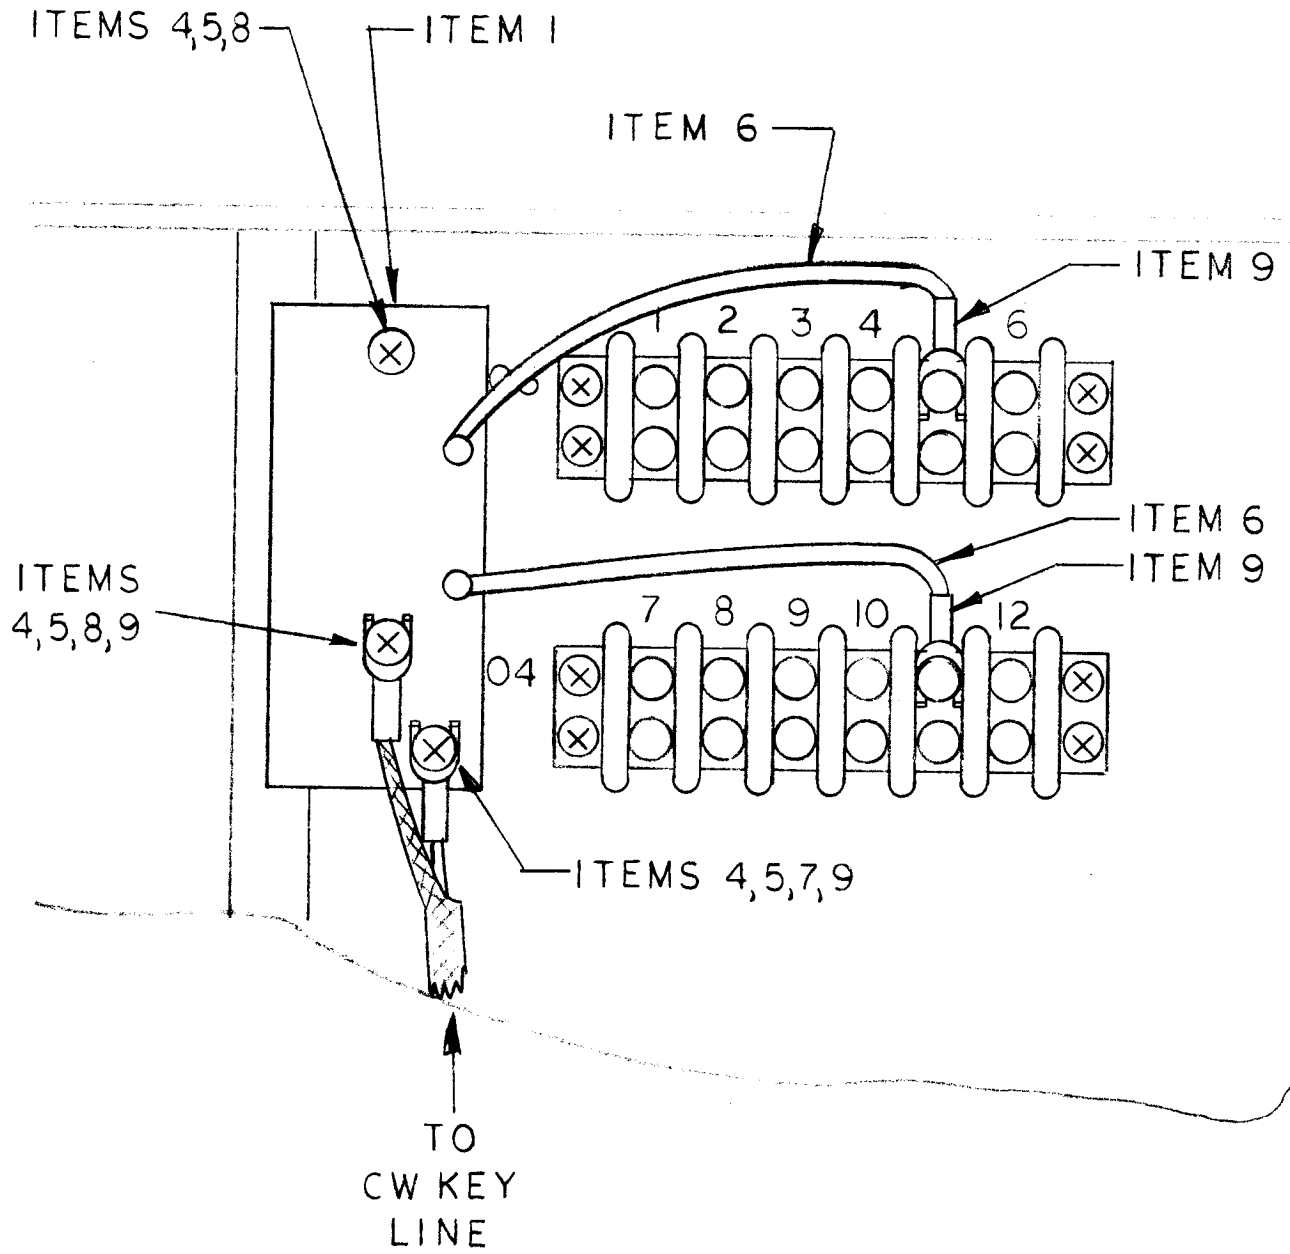

FIG. 2
3. Mount the board to the rear of the exciter as per Fig. 2.
4. Connect the jumper assemblies to the board and the exciter strips as per Fig. 2.
5. Connect the keyline to the board as per Fig. 2. (Remove from fanning strip in rack cabling, add lug and connect to board upon reinsertion of exciter) (If applicable).